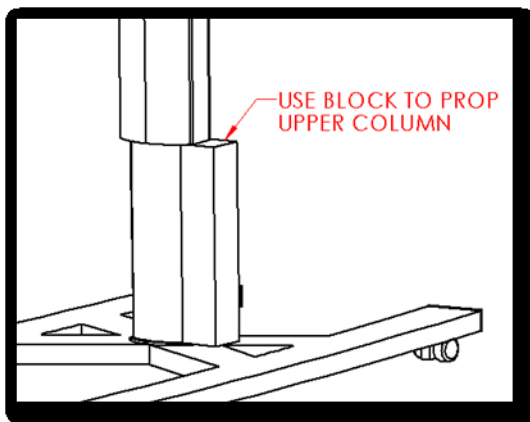

Figure 10
- 5.12 Attach the upper column to the top washer. Use the provided block to boost the upper column (Figure 10). Activate the gas spring lever and push the top plate down, aligning the plate and column holes. Attach with the 2 screws removed in step 5.4 (Figure 7).